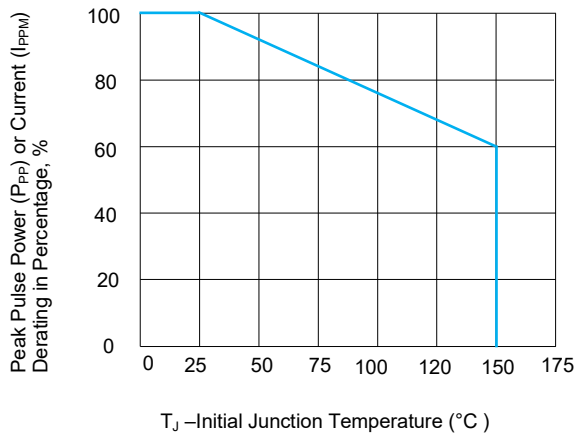

FIGURE 3 Peak Pulse Power Derating Curve
1. Non-repetitive current pulse, per Fig. 4 and derated above T_J(initial)=25 °C per Fig. 3.